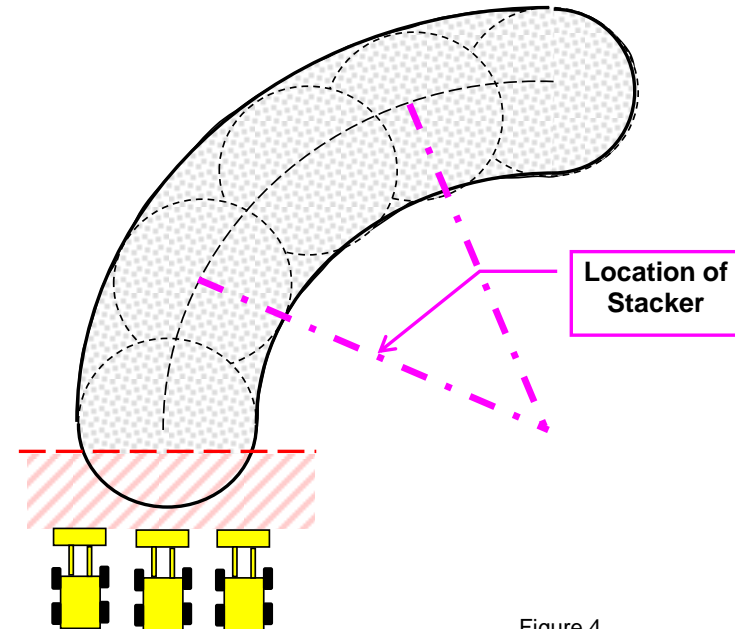

Figure 4
1. Select sampling location perpendicular to the direction of the stacker. (See Fig. 4)
2. Remove material from bottom of the pile, across the entire cross-section of the stockpile. (See Figs. 4 & 5)